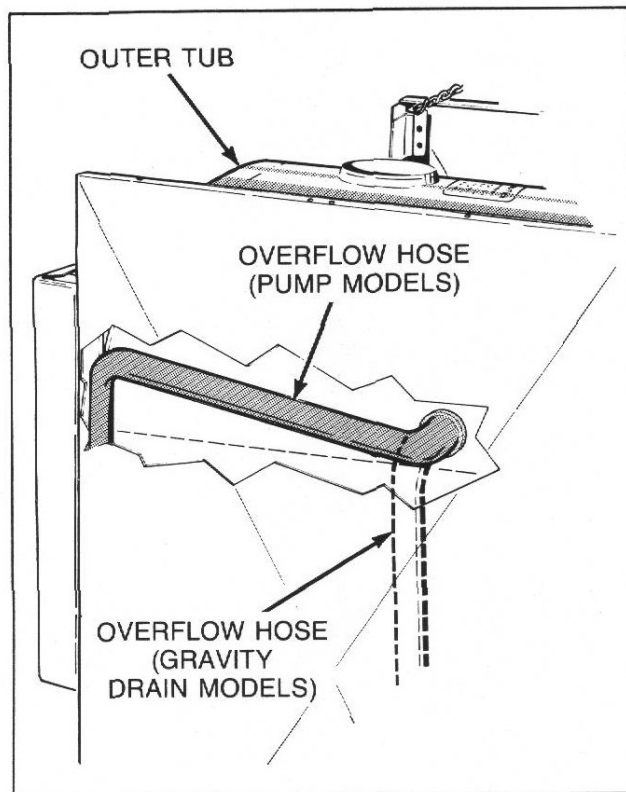

Figure 26
- Disconnect overflow hose from outer tub, *Figure 26*. DO NOT chip porcelain tub.
**IMPORTANT:** When installing overflow hose (pump models), run hose on incline toward front of washer, *Figure 26*.